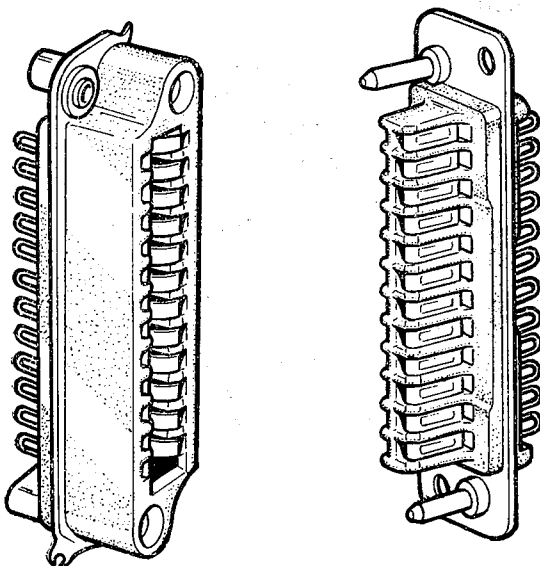

Fig. 2. Pin polarization type without shells
3. These are similar to those described in para. 2, additionally polarization pins are provided to prevent mismatching. A typical mating pair are illustrated at fig. 2. Locating and guide pins are mounted, one at each end of a plug assembly. They are of different diameters and engage with corresponding sockets in the receptacle. Contact arrangements are listed in Table 2.